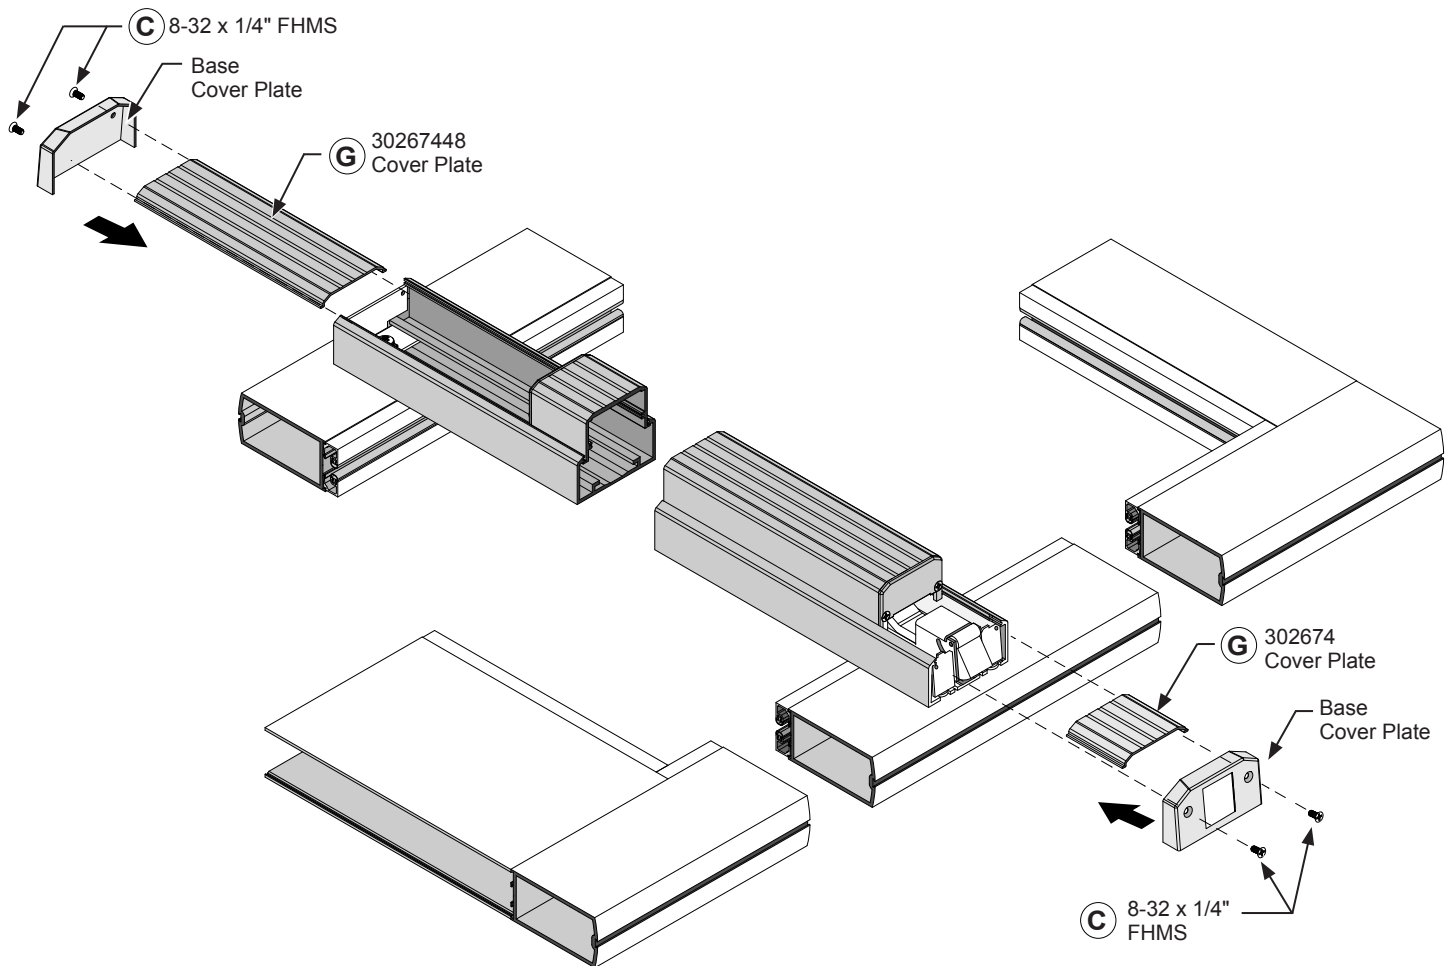

FIG. 12
1. Slide the (2) base cover plates (G) 302674 and 30267448 in place.
2. Attach both end caps to the previously attached end cap brackets with (C) (4) 8-32 x 1/4" FHMS Refer to (Fig.12).